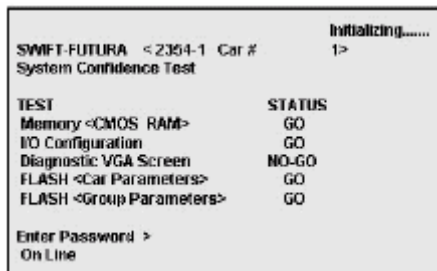

Figure 2-8
5. Cycle off CB2 then back on the check terminal for Confidence Test. [See Figure 2-8.]